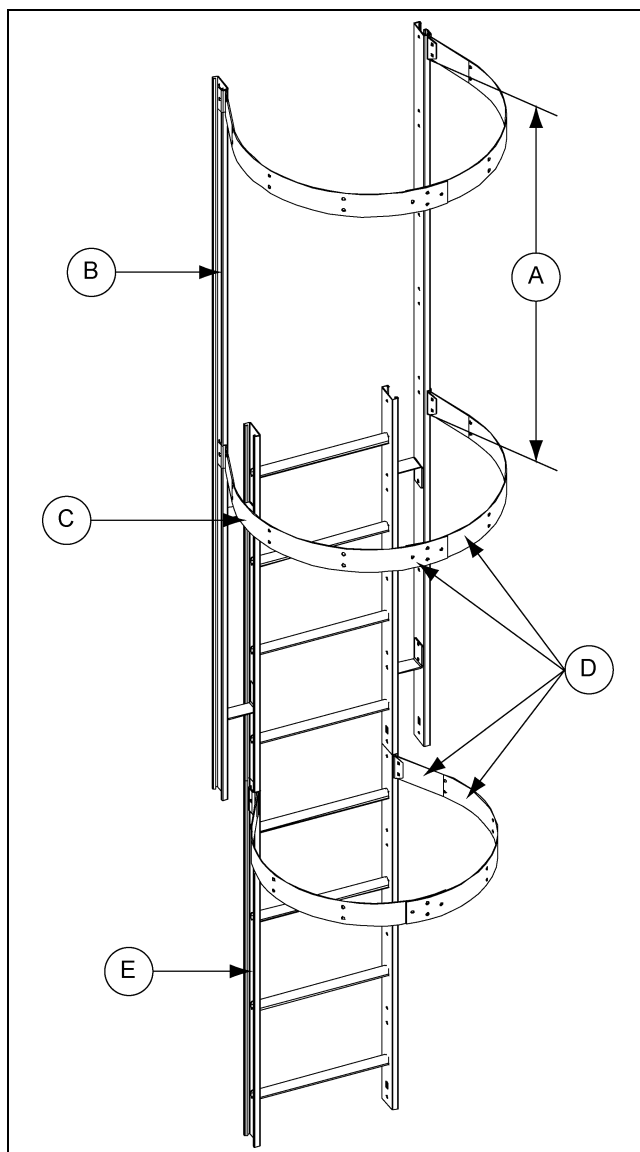

Figure 9C
To complete the safety cage hoop installation, some pre-assembly is required. Attach four (4) safety cage brackets to the extension rails and two (2) safety cage brackets to the second 4' ladder section as shown in Figure 9C. See cage hoop bracket detail on Page 45 for proper installation. Next, bolt each set of safety cage hoop halves together using 5/16" x 3/4" bolts with the head of the bolt to the inside of the safety cage. You may now bolt these assemblies to the safety cage brackets. Tighten bolts as you go.